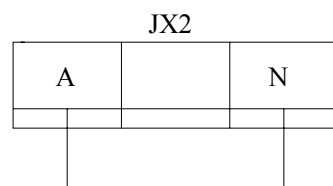

Fig 6 (fan power)
4.1 Connect fan power,see Fig 6